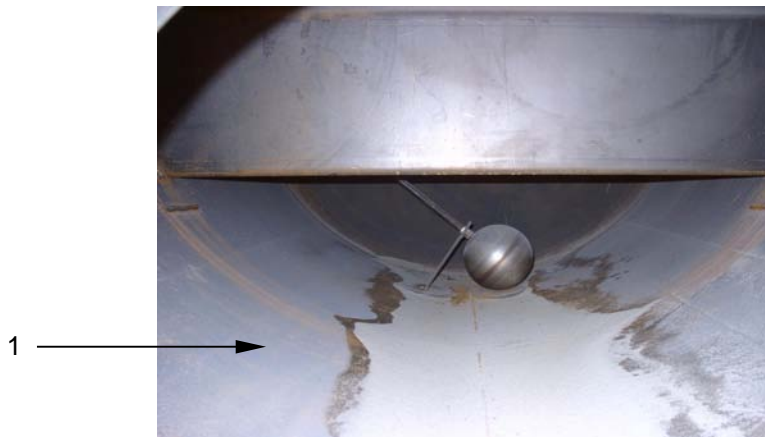

Figure 2. Tank Interior
8. When the tank is completely empty (**figure 2, item 1**), rinse and steam clean the interior, the primary shutoff assembly, manway, as well as intake, drain hoses and oil catch muffler.